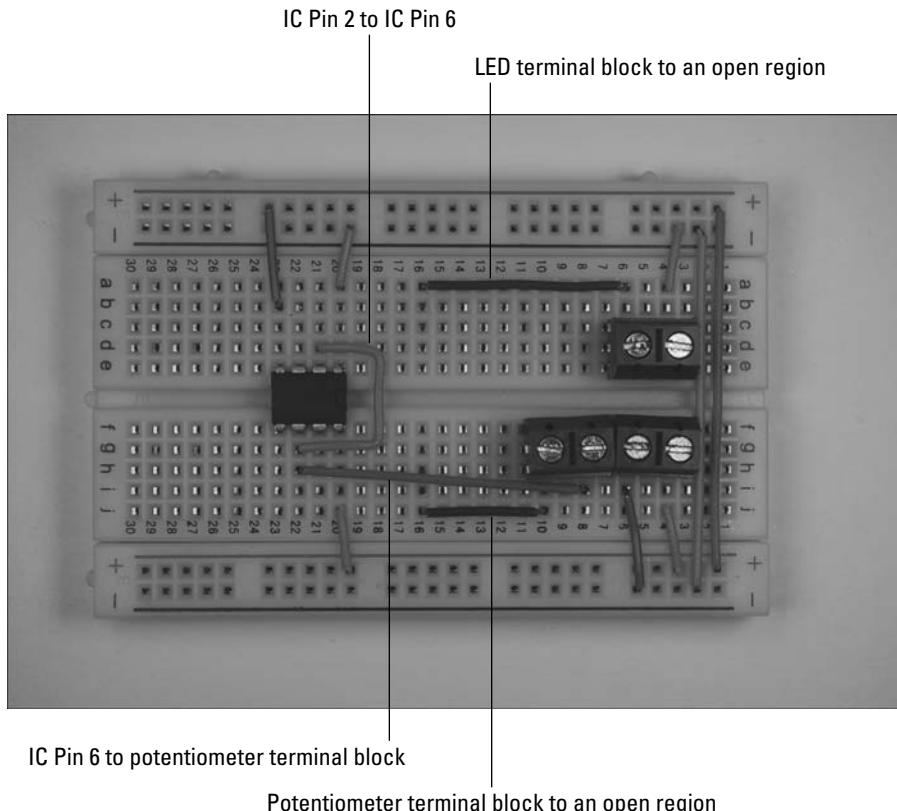

Figure 9-10:
4. Insert wires to connect the IC, terminal blocks, and discrete components, as shown in Figure 9-10.